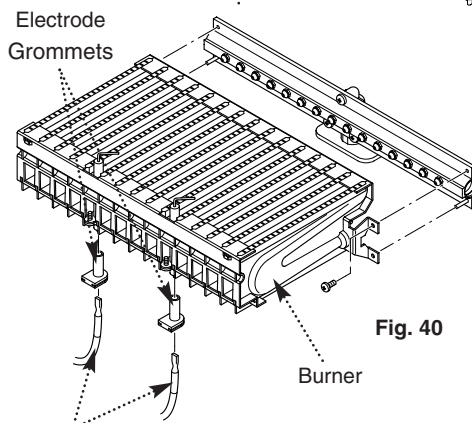

Fig. 40
15. Draw the burner out of the combustion box, pulling the electrode grommets from the slots in the combustion box lower panel (Fig. 40).
16. Disconnect the electrode leads and grommets from the electrodes. Completely remove the burner (Fig. 40).